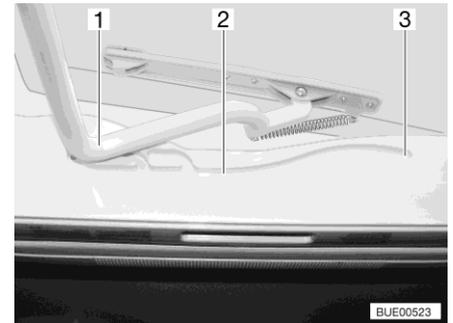

Fig. 88 Guide (Heki skylight)
- Pull the bar (Fig. 88,1) in the guides (Fig. 88,2) to the rearmost position (Fig. 88,3).
- Use both hands to push the bar (Fig. 88,1) slightly upwards.
- Pull the bar in the guides (Fig. 88,2) to the desired position.